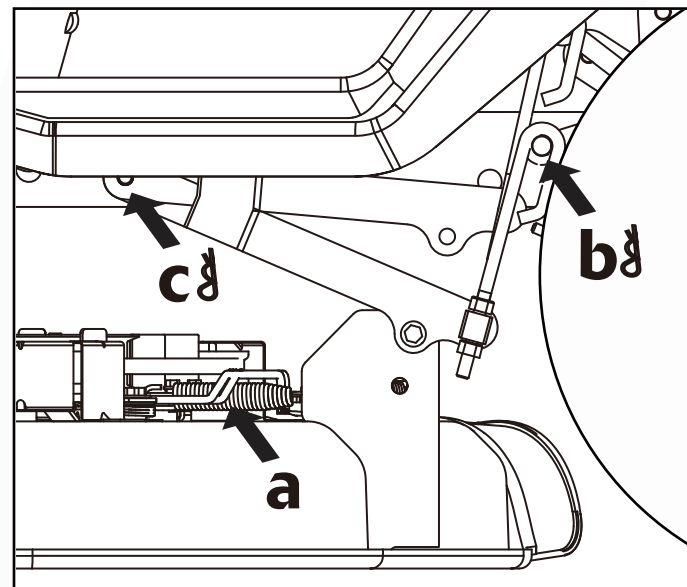
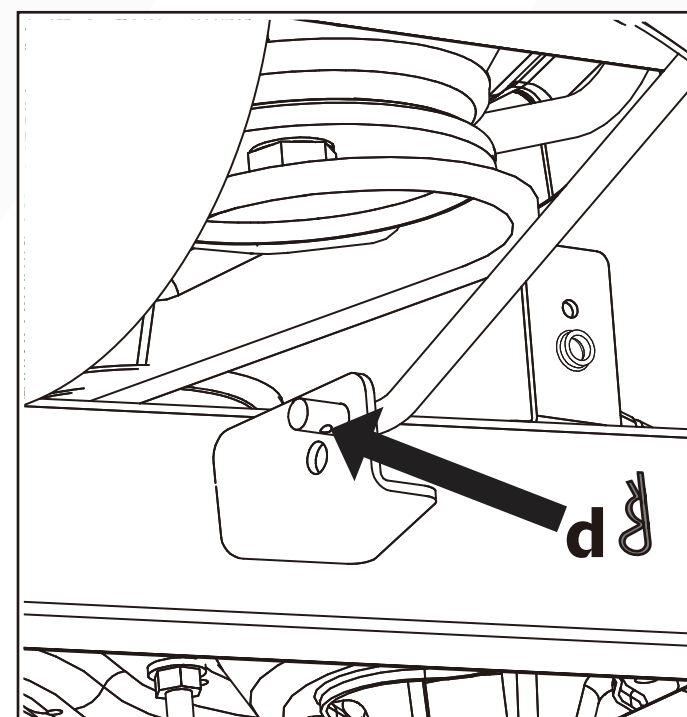

Fig. 24
Fig. 25
4. Disconnect the cable spring (a, Fig. 24) that connects the deck to the tractor.
5. Remove the 5 hitch pins, 2 on the left (b and c, Fig. 24), 2 on the right (the same position as shown on left), and 1 on the front (d, Fig. 25) that secure the deck in place.